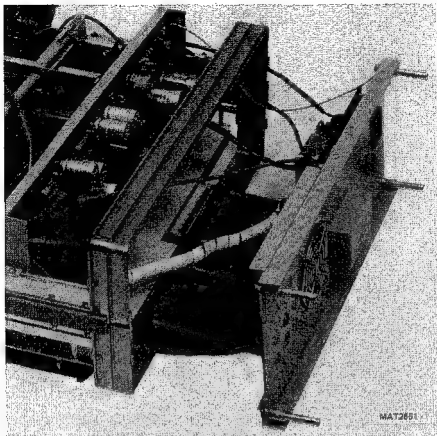

Figure 10.2 Use of the extension board for the rear panel.
- Unscrew the four screws marked with A in figure 10.2 and remove the profile B.
To test the power supply under full load, the extension board for the plug in units can be used as shown in figure 10.2.